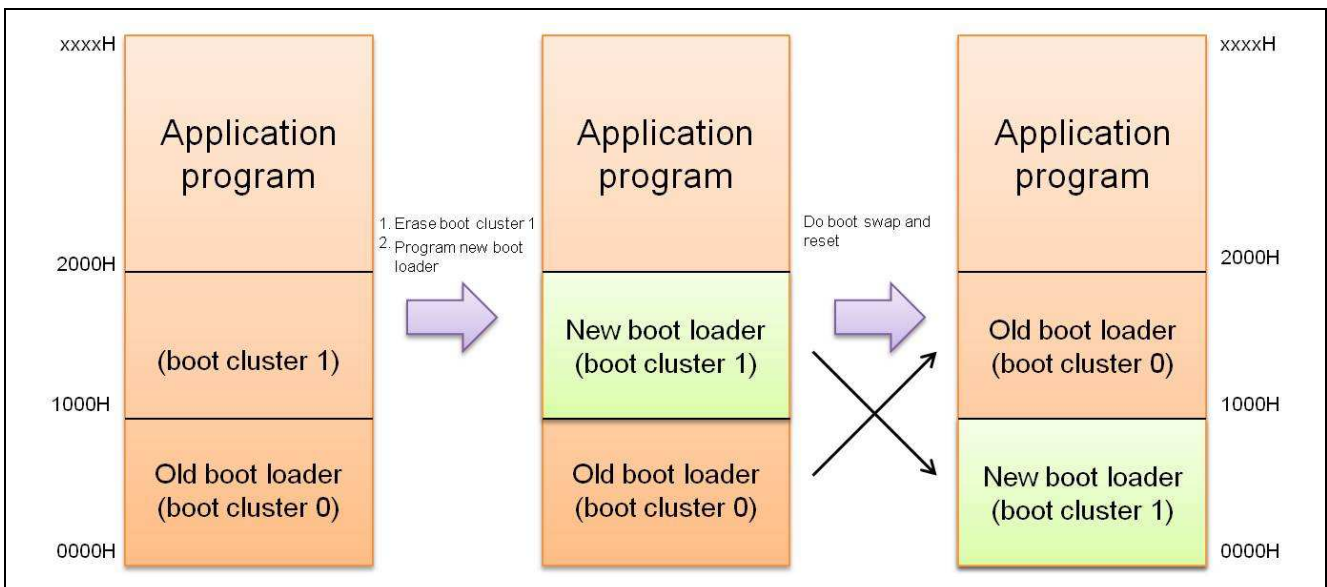

Figure 5 Boot loader program update
- To update boot loader program, it is similar with the procedure of updating application program. The RL78/G13 has a boot swap function for updating the boot loader program. The boot loader area is treated as two parts, boot cluster 0 and boot cluster 1. First step is to erase boot cluster 1 and program a new boot loader firmware into boot cluster 1. And then run the boot swap function to swap the two boot clusters. Finally reset the system to activate the new boot loader. After reset, the program will start from boot cluster 1. Figure 5 shows a diagram of updating the boot loader program.